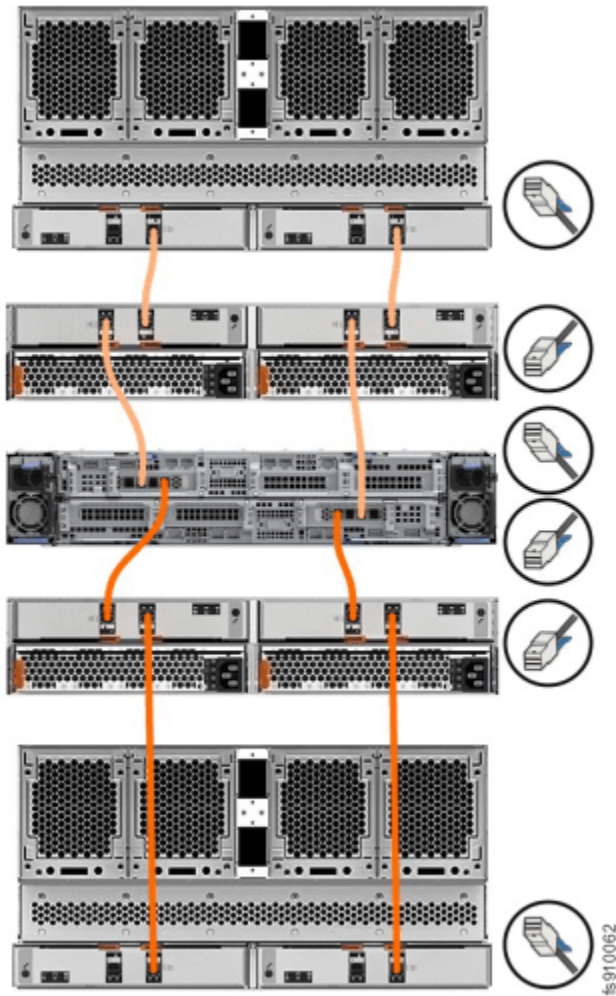

Figure 65. Connecting the SAS cables to control enclosure
- The FlashSystem models support 4-port SAS interface adapters. However, only ports 1 and 3 are used for SAS connections, as Figure 65 on page 96 shows.
- See “Enclosure location guidelines” on page 54 for the number and type of expansion enclosures that can be chained to SAS port 1 and SAS port 3 of a node canister. The expansion enclosures in this chain must be installed below the control enclosure (as shown in Figure 65 on page 96).
- Figure 65 on page 96 shows an example configuration of a control enclosure that is connected to two SAS chains.
- Figure 65 on page 96 is a generic cabling diagram intended to illustrate how to cable the different types of expansion enclosure. Some systems do not allow for a mixture of expansion enclosure types in the same chain. See Chapter 4, “Expansion enclosures,” on page 39 for details on the supported expansion enclosures for your specific system model.
Using the supplied SAS cables, connect the control enclosure to the expansion enclosure at rack position 1, as shown in Figure 65 on page 96.
To add further expansion enclosures, continue to connect the expansion canisters as shown in Figure 65 on page 96.